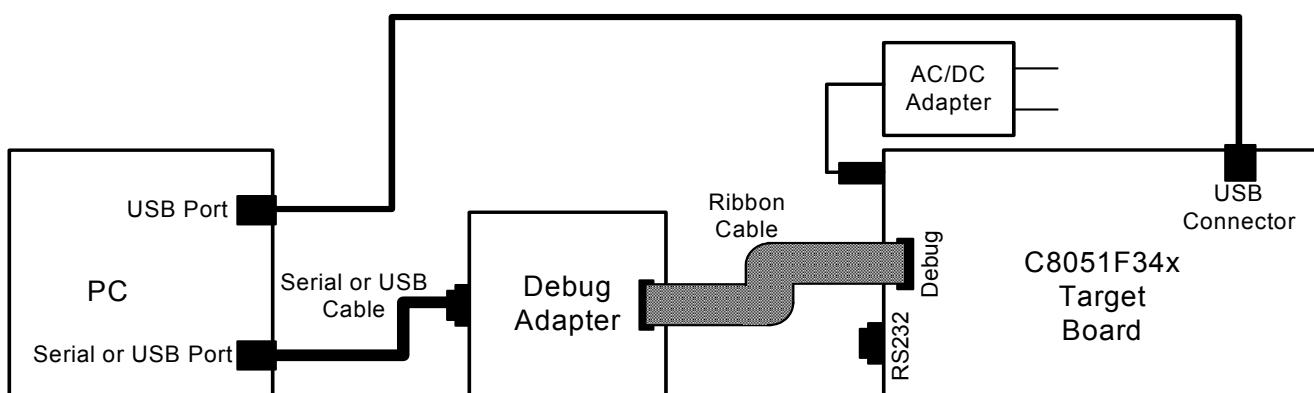
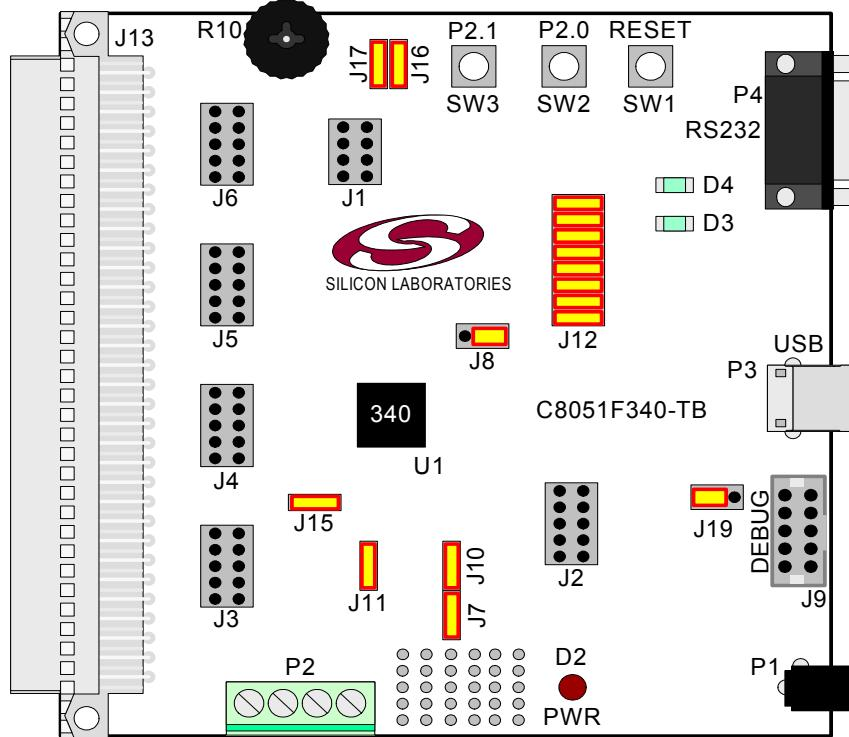

Figure 3. USB Application Hardware Setup
Figure 4. C8051F340 Target Board
1. Connect the USB cable between the host computer and the C8051F340 target board, as shown in Figure 3. See Figure 4 on page 8 for the location of the USB connector.
5. See Figure 4 on page 8 for the location of headers, LEDs, switches, and potentiometer.
The C8051F34x Development Kit includes a target board with a C8051F340 device pre-installed for evaluation and preliminary software development. Numerous input/output (I/O) connections are provided to facilitate prototyping using the target board. Refer to Figure 4 for the locations of the various I/O connectors.